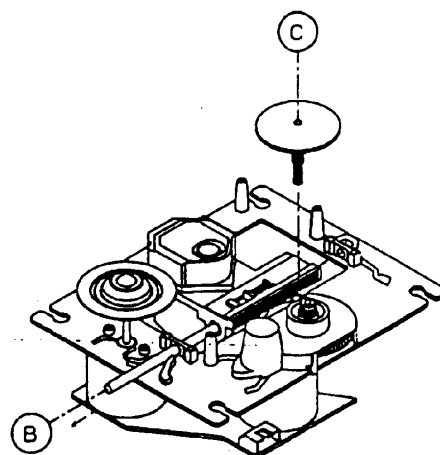

Figure 7
5. Remove the Gear **C**. (See Figure 7.)
(See Figure 7.)